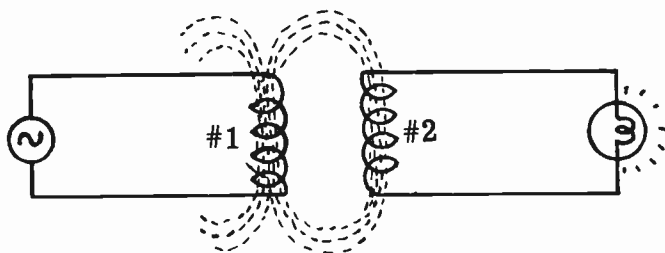
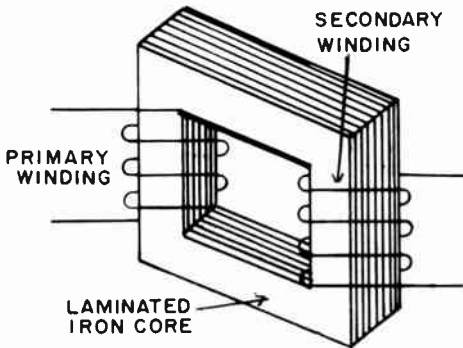

FIG. 4-44. MAGNETIC COUPLING.
FIG. 4-45. BASIC IRON CORE POWER TRANSFORMER.
**OPERATION OF THE TRANSFORMER.** Every time current flows through a conductor, a magnetic field builds up around the conductor. The magnetic field is in phase with the current at all times. Therefore, if an alternating current flows through a coil of wire, an alternating magnetic field will exist around this coil. This alternating magnetic field expands outwardly, away from the coil, and collapses back into the coil periodically. If a second coil with a lamp across it, is placed in the vicinity of coil #1, as illustrated in Fig. 4-44, the alternating magnetic field will cut across coil #2 and induce an AC voltage in it. This voltage will cause the lamp to light. Notice that no electrical connection exists between the coils. Energy is transferred from coil #1 to coil #2 by the varying magnetic field. We say that the coils are **MAGNETICALLY COUPLED**. This method of transferring energy from one coil to another is known as **TRANSFORMER ACTION**. The entire device, consisting of two coils magnetically coupled, is called a **TRANSFORMER**. Coil #1, which is connected to the voltage source, is called the **PRIMARY**. Coil #2 is called the **SECONDARY**.
**THE POWER TRANSFORMER.** A transformer, used to transfer AC power at power frequencies, is known as a POWER TRANSFORMER. In order for a power transformer to operate efficiently, the primary and secondary coils are wound on a laminated iron core, as illustrated in Fig. 4-45. This is known as an IRON CORE transformer, as differentiated from the AIR CORE transformer of Fig. 4-44.